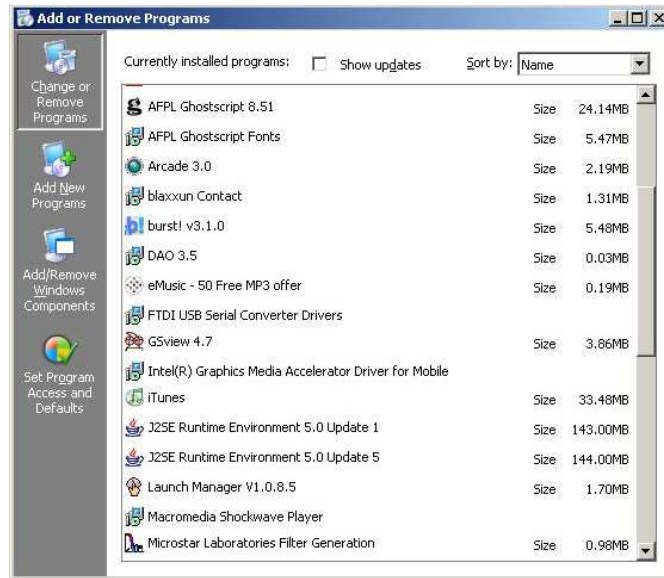

Figure 23: Add or Remove Programs
3. Double click on Add or Remove Programs, obtaining a screen like figure 23.
Figure 23 lists the FTDI drivers, so they are installed. Similarly, the Tcl/Tk program for the unit should be shown on the same list under Syscomp.
1. On the Add or Remove Programs list of figure 23, find the entry System. Double click on it to obtain the System Properties screen of figure 24.